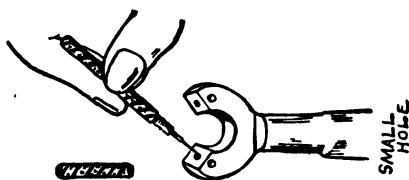

Fig. 16.
**Tips** are generally made of lava. Two small holes are in each end, only one of these being discernible to the eye. The hole, however, which becomes clogged is the small hole inside the large one. Fig. 16 shows a special Tip Cleaner which fits into the small hole.